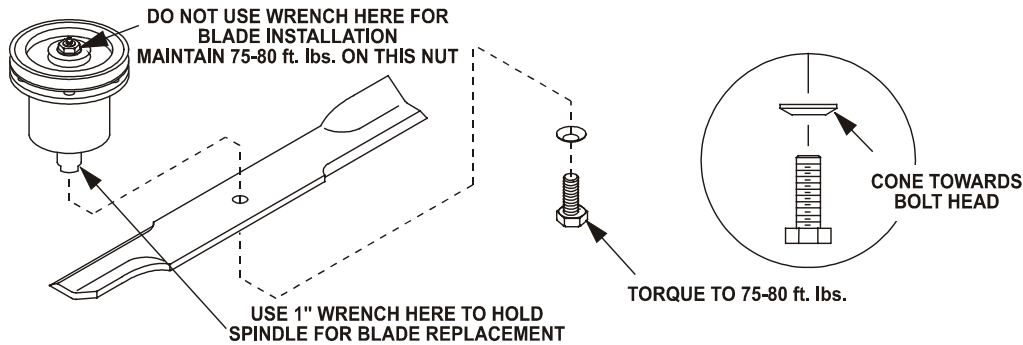

FIG. 7
- d) Torque blade bolts as shown. Be sure the spring disk washer cone is installed toward the bolt head (See Figure 7).